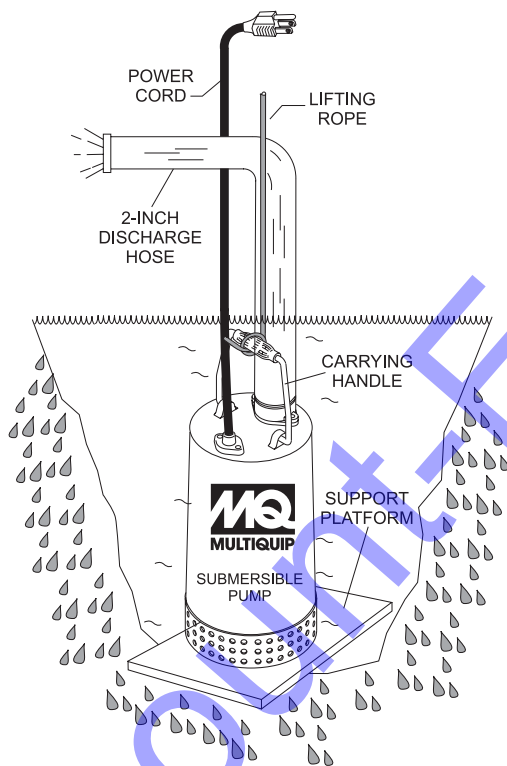

Figure 9. Submersible Pump Upright Position (Correct)
1. Attach a suitable lifting cable (rope) to the carrying handle (Figure 9) on the pump and lower the pump into place. For applications where there is an excessive amount of mud, grit or silt, the use of a support platform is desirable. When pumping water from swimming pool type applications where there is little or no debris, the support platform is not required.